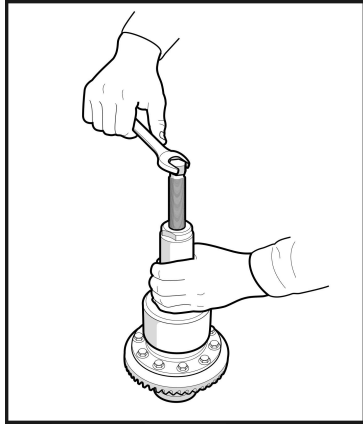

Fig. 10
1.13 Using a bearing puller, remove the carrier bearings from the differential carrier. (Fig. 10)